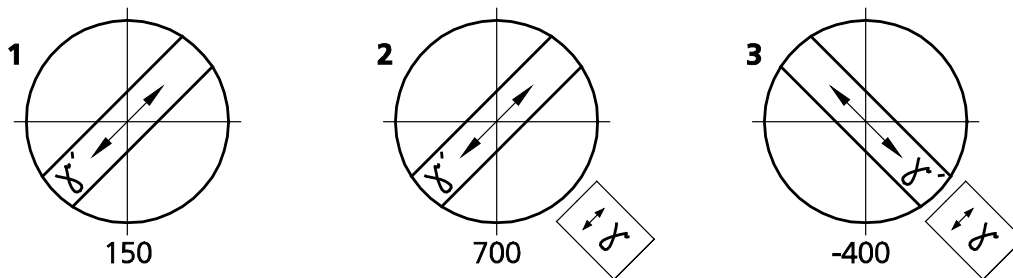
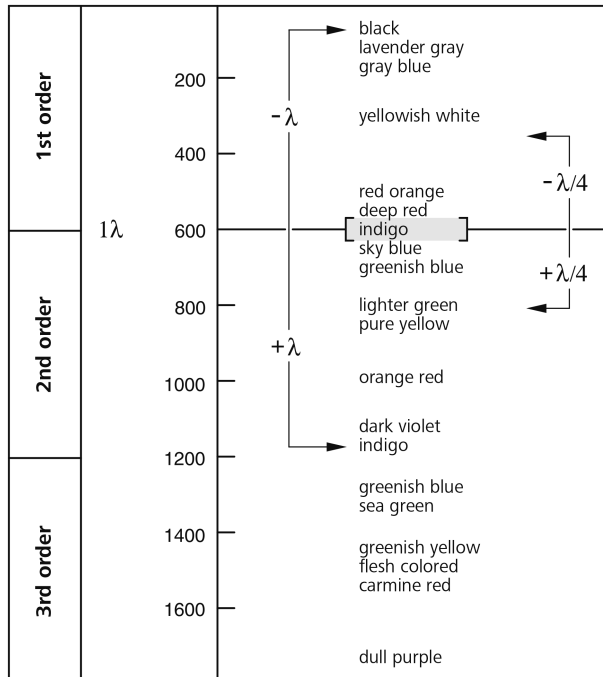

Fig. 4-10 Determination of the polarization direction $n_{\gamma'}$ in a synthetic fiber
Fig. 4-11 Diagram of the Michel-Lévy color tables
- Now turn the stage by approx. 45° until the longitudinal axis of the fiber is pointing in northeast-southwest direction (Fig. 4-10/1). The sample now shows the strongest brightness (diagonal position). The sample can have any color in this position.
The largest path difference occurs when the polarization direction of the sample or the absolute or relative largest index of refraction (n_γ or n_γ') is parallel to the largest polarization direction of the λ compensator. The sample appears then e.g. in blue-green (Fig. 4-10/2).
The smallest path difference occurs when the direction of polarization of the sample with the absolute or relative smallest index of refraction (n_α or n_α') is perpendicular to the polarization direction of the compensator λ . The sample then appears e.g. yellow (Fig. 4-10/3).
According to the Michel-Lévy color table (Fig. 4-11), the gray-white color which occurs in the bright position as discussed in the example above (Fig. 4-10/1) corresponds to a path difference of 150 nm.